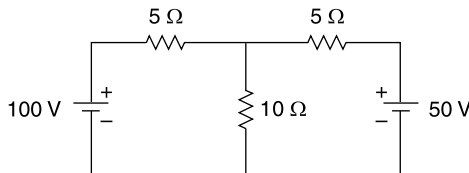

Fig. 4.76 Circuit of Ex. 4.50
4.50 Compute the current in the 10Ω resistor as shown in Fig. 4.76 using Superposition theorem.
Considering the 100 V source acting alone, the direction of currents supplied by the source has been shown in Fig. 4.76(a).